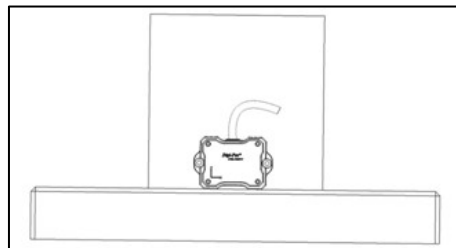

Figure 35. Tilt Sensor Module Position of Calibration Step 1
- Locate the sensor module as following Figure 35. The sensor is ready for user to perform calibration step 1.
10. For **DWL5000XY & DWL5800XY** model, please perform only 4 steps calibration as shown in Figure 35, 36, 41, and 42.